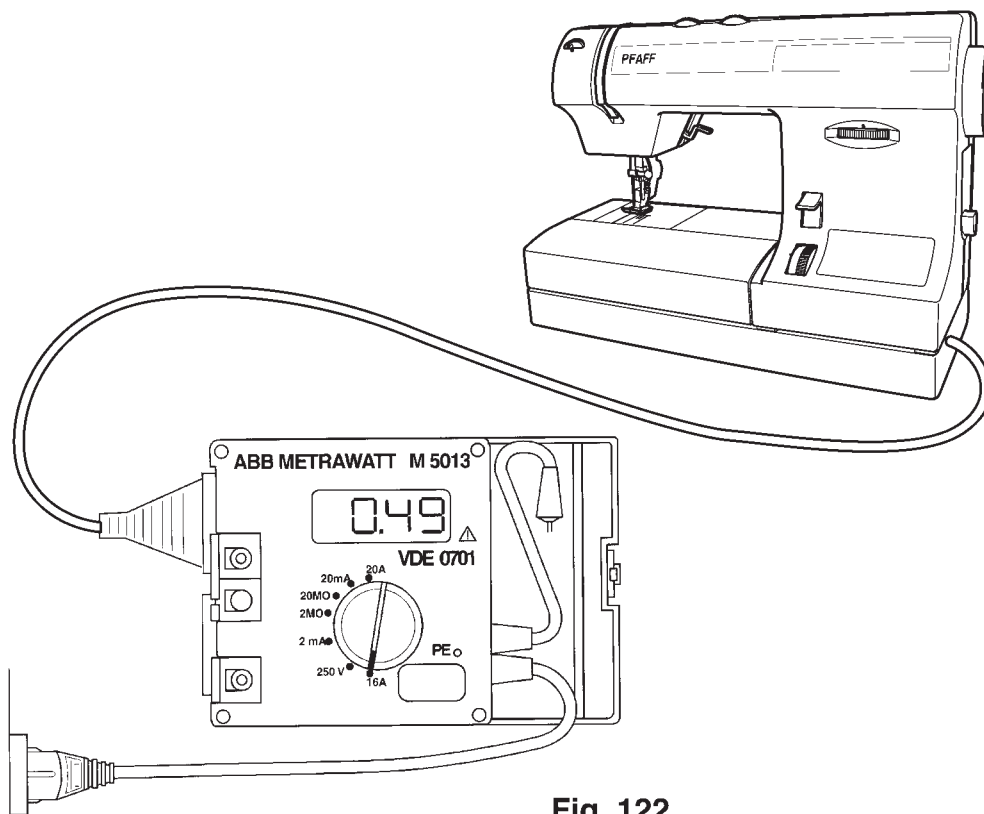

Fig. 122
- Set testing range switch at 16 A (fig. 122).